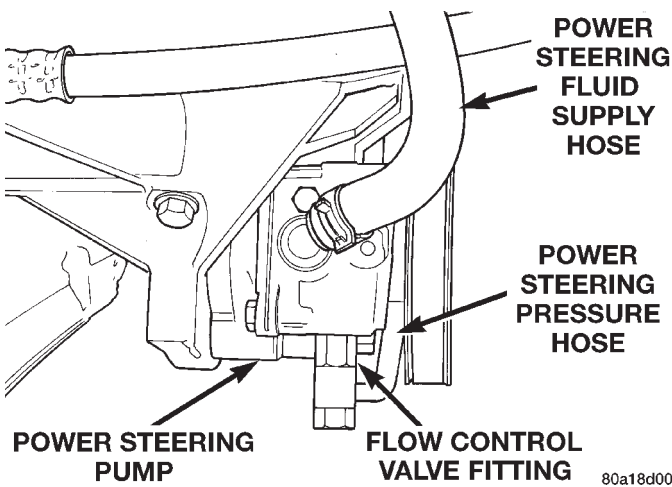

Fig. 24 Fluid Supply Hose At Power Steering Pump
remove power steering fluid supply hose from fitting on power steering pump (Fig. 24).
(1) Install power steering fluid supply hose on power steering pump fitting, making sure it is correctly routed up to the power steering fluid reservoir. Install hose clamp on power steering fluid supply hose at power steering pump fitting (Fig. 24). **Be sure hose clamp is installed on power steering fluid supply hose past upset bead on power steering pump fitting.**
(2) Lower vehicle.